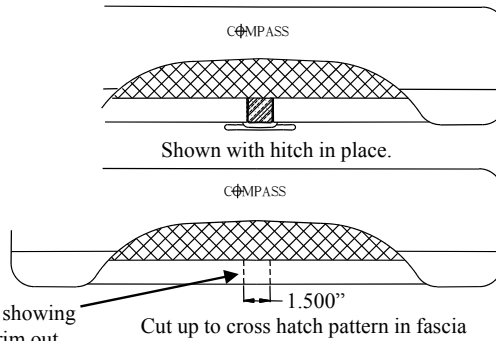
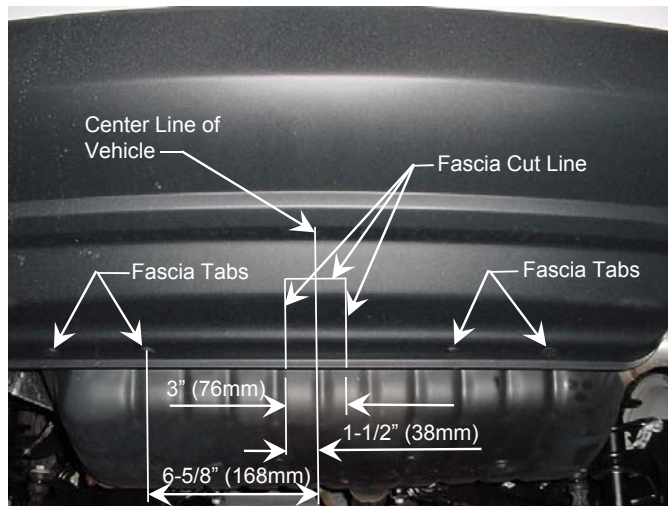

Figure 2
Figure 3
- If vehicle has **optional tow hook** see Note 1, above. For **Compass Rallye** see Note 2 and Figure 2. **Check with vehicle owner**. For **2011 and later Jeep Patriot and Compass models**, Fascia trimming is required for hitch installation. Obtain vehicle owners approval before cutting. See Figure 3 for fascia trimming diagram.
- On Compass Rallye Package only**. Use hitch receiver tube as a guide to cut a 2-1/4" wide by 2" high piece out of bumper fascia to allow clearance for ball mounts. See Figure 2.